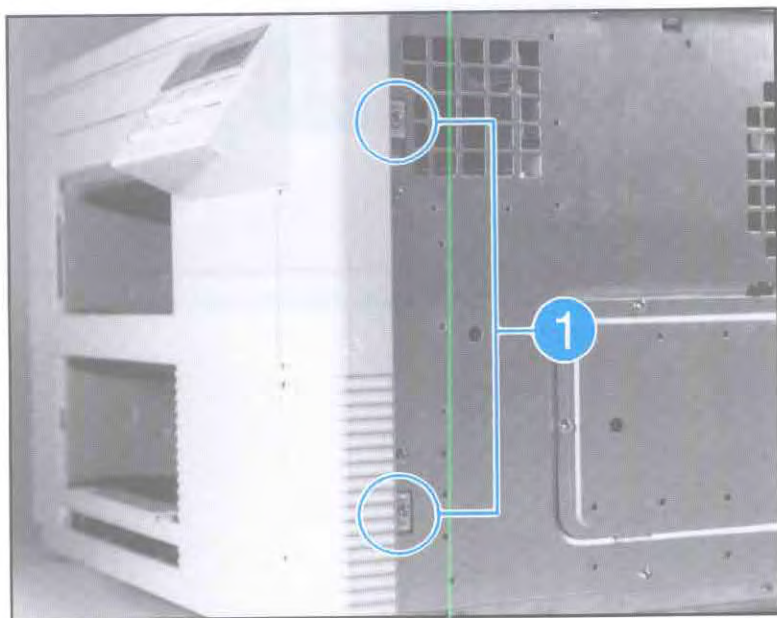

Figure 6-5. Front Cover
4. Remove the (2) screws securing the Front Cover on the right side of the printer (see Figure 6-5, callout 1).
5. Remove the (1) screw securing the Front Cover on the lower left side of the printer (not shown).
4. Remove the Front Cover (see Figure 6-5).